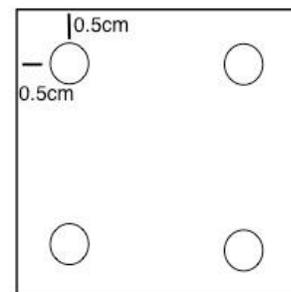

Figure 1.3b
- Check that the round supporting "feet" are under the respective sensors (see **Figure 1.3b**)